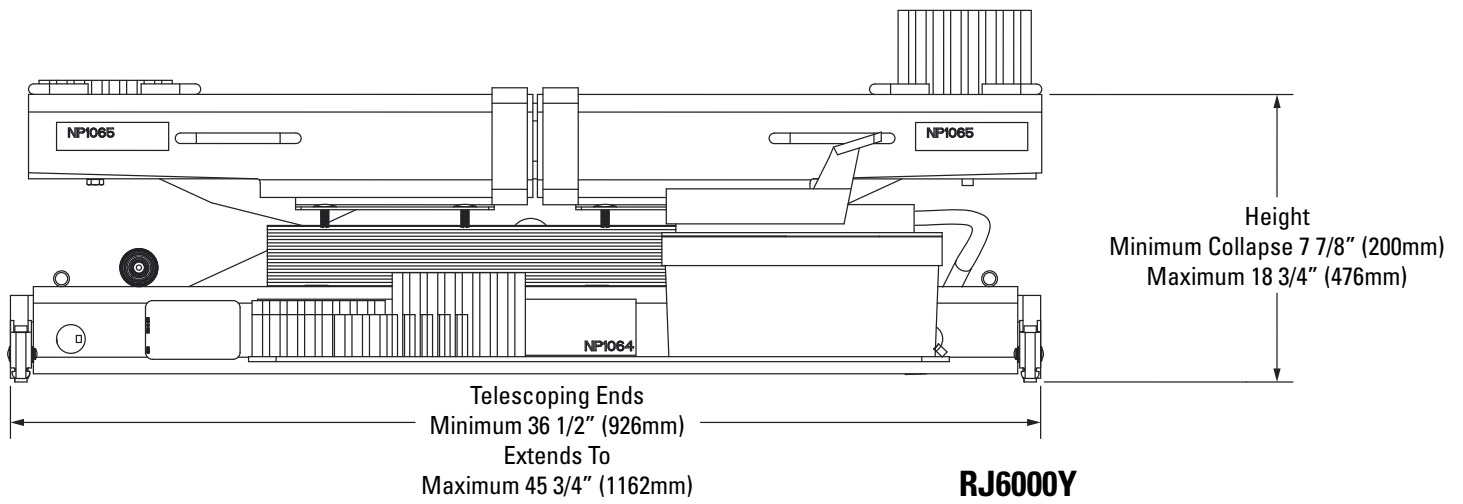

Fig. 3
- C. RJ6000Y: The rail engaging wheels shall be adjustable for an inside runway width of 36 1/2" (926 mm) minimum to a 45 3/4" (1162 mm) maximum Fig. 3.